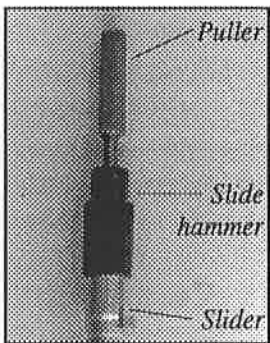

Fig. 15
26. Insert the puller into the stanchion, making sure that the adjusting axle is inside the puller. Place the stanchion snapping over the shoulder of the puller. Slide the broad end of the slide hammer over the puller and stanchion (Fig. 15).